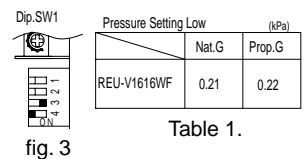

fig. 3
3. Run the cable through the hole in the wall, ensuring that the end fitted with the connector is near the controller. (fig 3)
3. Cut the spade connectors from 2 of the controller cables to be connected to the appliance (4 spade connectors should be cut off) and discard. Connect the wires from these two cables and terminate into two new spade connectors as shown in fig 3. Spade connectors are available from your local electrical component retailer.
9. To set the appliance to 'Forced Low' combustion, switch No. 3 dip switch of the SW1 set of dip switches to 'ON'. (fig. 3)